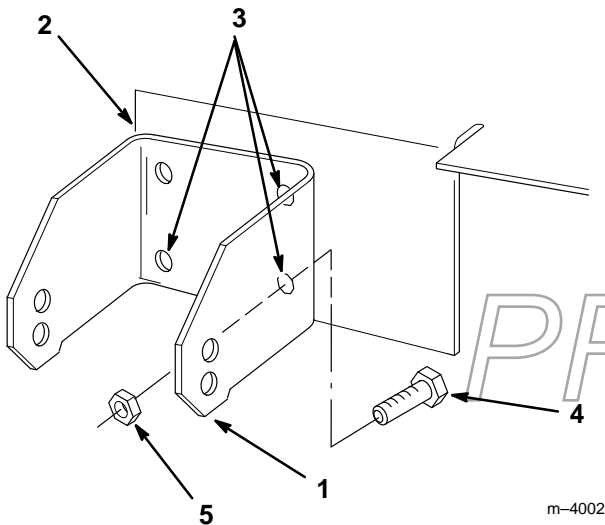

Figure 4
2. Clamp the roller bracket against the rear of the mower next to the outer deck weld and flush with the bottom of the mower (Fig. 4).
3. Using the bracket as a guide, center punch and pilot drill (4) 1/4" holes, then drill (4) 13/32" (10.5 mm) holes in the mower (Fig. 4).
4. Insert (4) 3/8-16 x 1" (26 mm) bolts through from the inside of the mower and secure them with (4) 3/8-16 locknuts (Fig. 4).